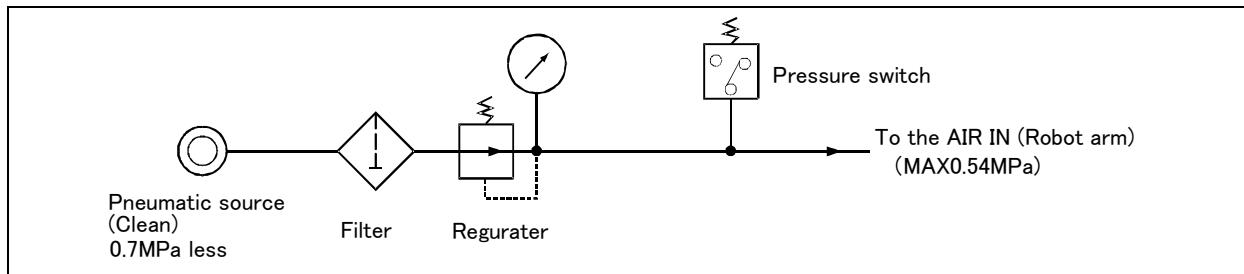

Fig.2-32 : Air supply circuit example for the hand
Fig. 2-32 shows an example of pneumatic supply circuitry for the hand.
- (1) Place diodes parallel to the solenoid coil.
- (2) When the factory pneumatic pressure drops, as a result of the hand clamp strength weakening, there can be damage to the work. To prevent it, install a pressure switch to the source of the air as shown in Fig. 2-32 and use the circuit described so that the robot stops when pressure drops. Use a hand with a spring-pressure clamp, or a mechanical lock-type hand, that can be used in cases where the pressure switch becomes damaged.
- (3) The optional hand and solenoid valve are of an oilless type. If they are used, don't use any lubricator.
- (4) Supply clean air to the vacuum generation valve when you use clean type robot.
- (5) If the air supply temperature (primary piping) used for the tool etc. is lower than ambient air temperature, the dew condensation may occur on the coupling or the hose surface.